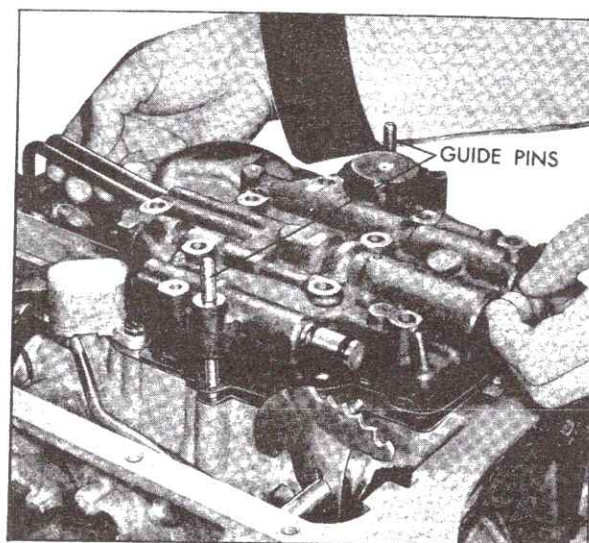

Fig. 7-103 Installing Control Valve Assembly
2. Using two control valve assembly attaching screws with heads cut off as guide pins, Fig. 7-103, install control valve assembly and governor pipes on transmission. Make certain gaskets and spacer do not become mispositioned.